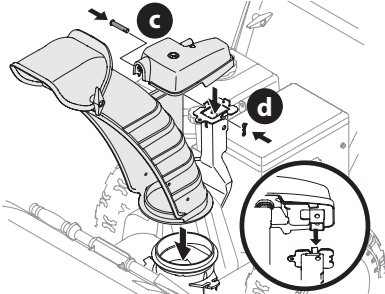

Figure 14
- Secure chute control head to chute support bracket with clevis pin (c) and cotter pin (d) removed in Step 1 (Figure 14).